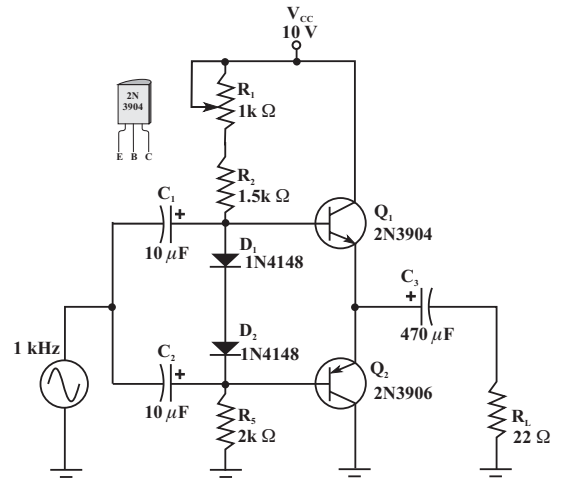

Figure 4 The Class AB Amplifier
Disconnect the power and signal generator leads from the circuit and replace the series resistors R_3 and R_4 with the two 1N4148 compensating diodes in series with the transistor base leads as shown in Figure 4.
3) Using V_{in} and V_{out} , calculate the measured voltage gain of the Class AB amplifier shown in Figure 4.